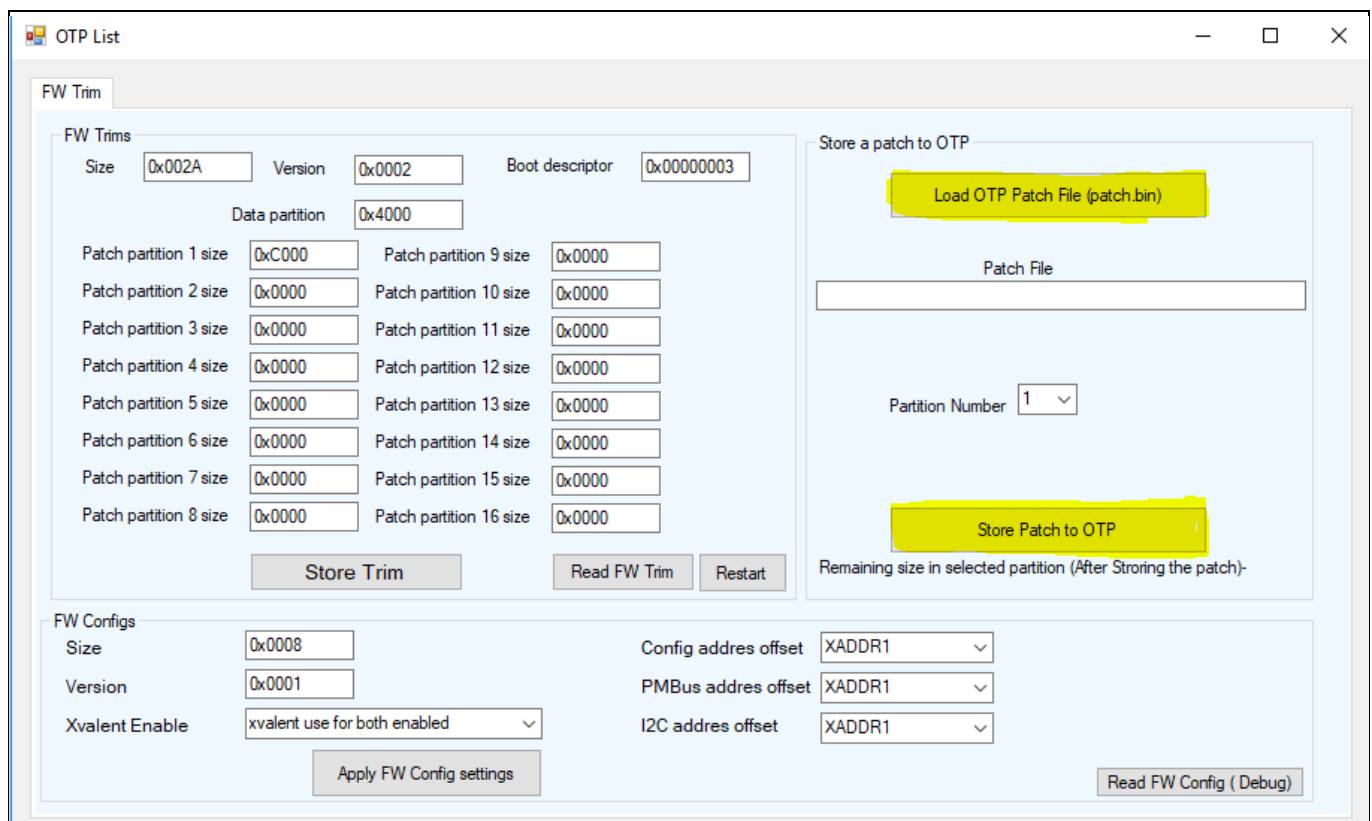

Figure 17 Multi Device Programmer tool – OTP data, store patch to OTP
- Click on the button “Load OTP Patch File (patch.bin)” (**Figure 17**) to browse for the patch.bin file; select the file and click on OK.
In the “FW Config” section of **Figure 17**, the user can select which XADDR pin is going to be used to define the address offset, and which XADDR pin will program the multi configuration offset (configuration address offset).